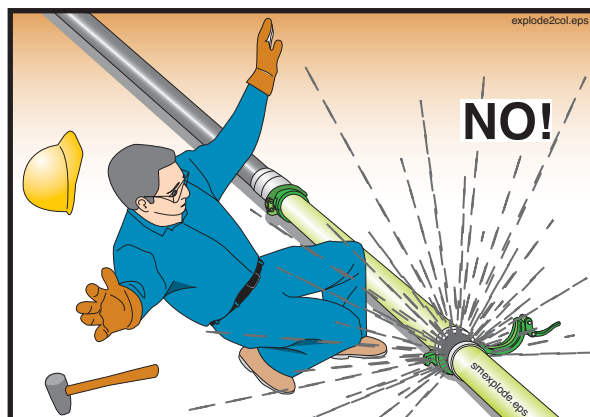

Figure 52
- 15.6** **⚠ WARNING** Never open a pressurized pipeline (Figure 52). The pump operator must release the pressure before you open the line. If the line is pressurized with compressed air, let the operator release the pressure and verify that the air has escaped before you proceed.